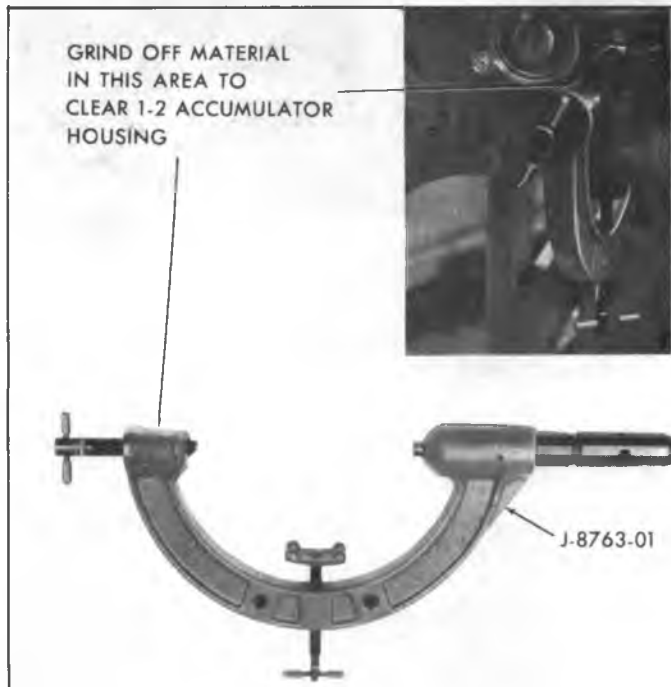
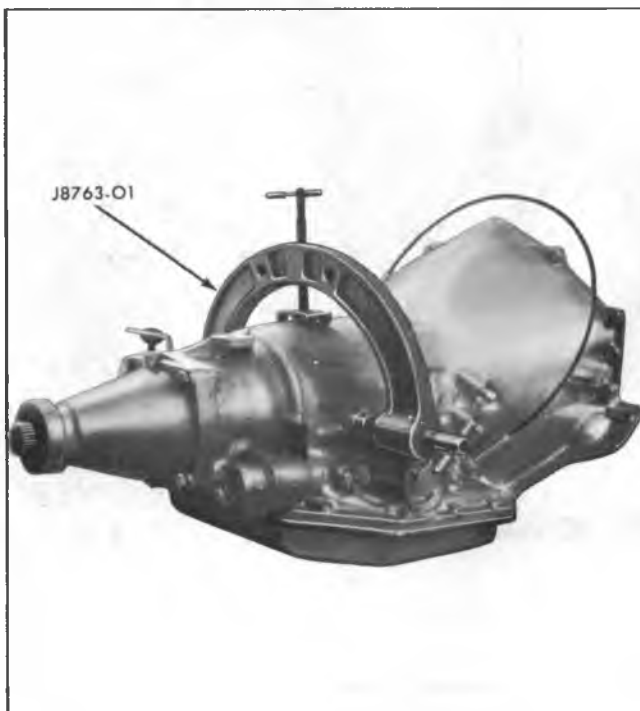

Fig. 2M—Modifying J-8763-01 Holding Fixture
Fig. 3M—Transmission in Holding Fixture
1. Install Holding Fixture J-8763-01 (Modified as shown on fig. 2M) on transmission and place into Holding Tool base J-3289-14 with converter facing up (fig. 3M).